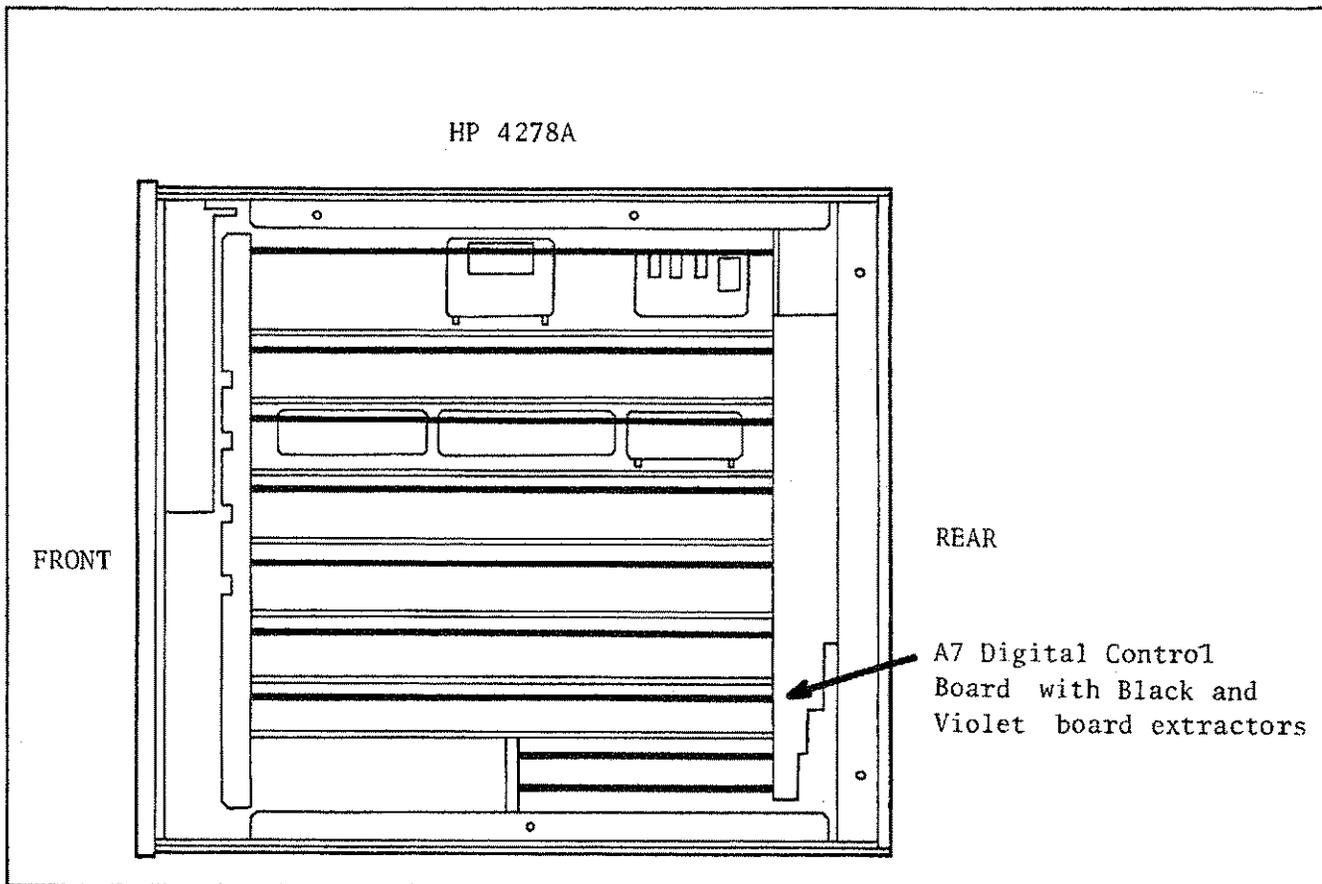

Figure 3-8. A7 Digital Control Board Location
7. Remove the A7 board. Figure 3-8 shows the A7 board's location.